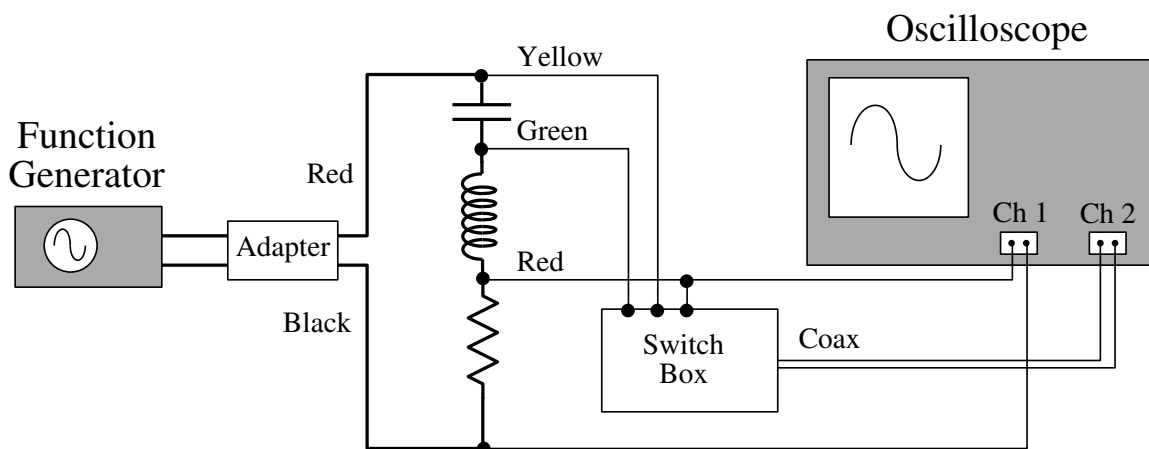

Figure 7.3: Connection of instruments to an RLC series circuit.
1. Connect the entire series *RLC* circuit to the function generator. The circuit should be arranged as in Fig. 7.3 (corresponding to template #1). Note that for this step you should connect only the “first location” CH1 V_R ; you will use